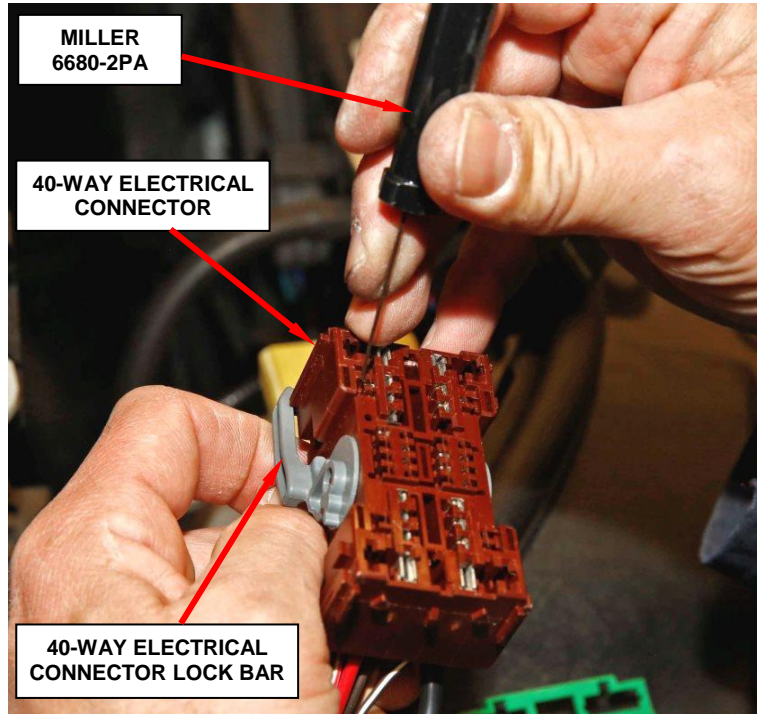

Figure 26 – Remove Pink (with Green Trace) wire from 40-Way Connector
- Carefully remove the pink (with a green trace) from the 40-way connector (Figure 26).